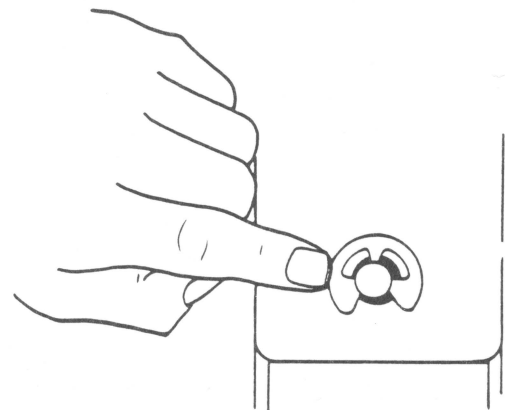

FIGURE 6
12. As a further check, open the door and then push collet shaft off-center, (Figure 6), close and open door a few time, making sure that shaft reseats itself in the center of the hole.